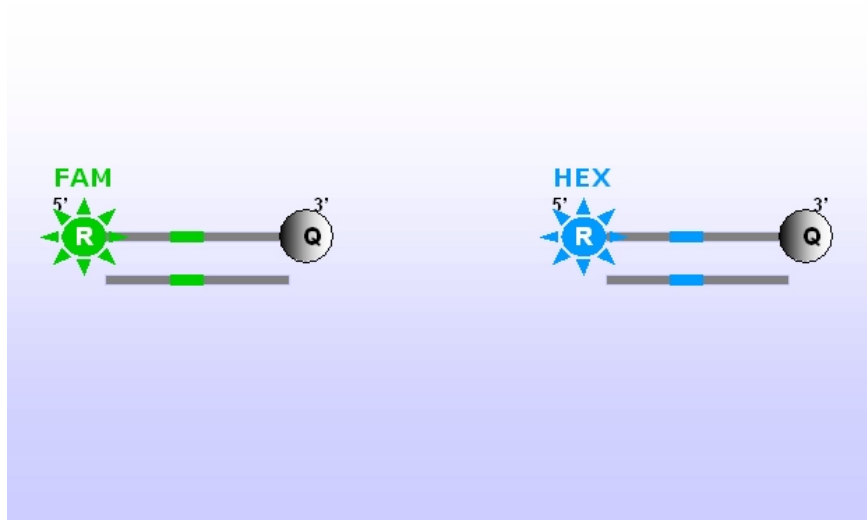

Fig. 1
With the kit is used a probe dyed with a different fluoride for each investigated sequence; in particular one probe detects the allele target that bound covalently as a fluorophore at the 5'-end the FAM molecule (6-carboxyfluorescein) while the other probe detects the internal control (IC) bound as a fluorophore at 5'-end the HEX molecule (hexa-chloro-fluoresceine). The two probes have at their 3'-ends a quencher called BHQ-1 (fig.1). If excited, the integral probe does not emit fluorescence, because the closeness of the quencher to the reporter prevents this last from emitting fluorescence (quenching effect).